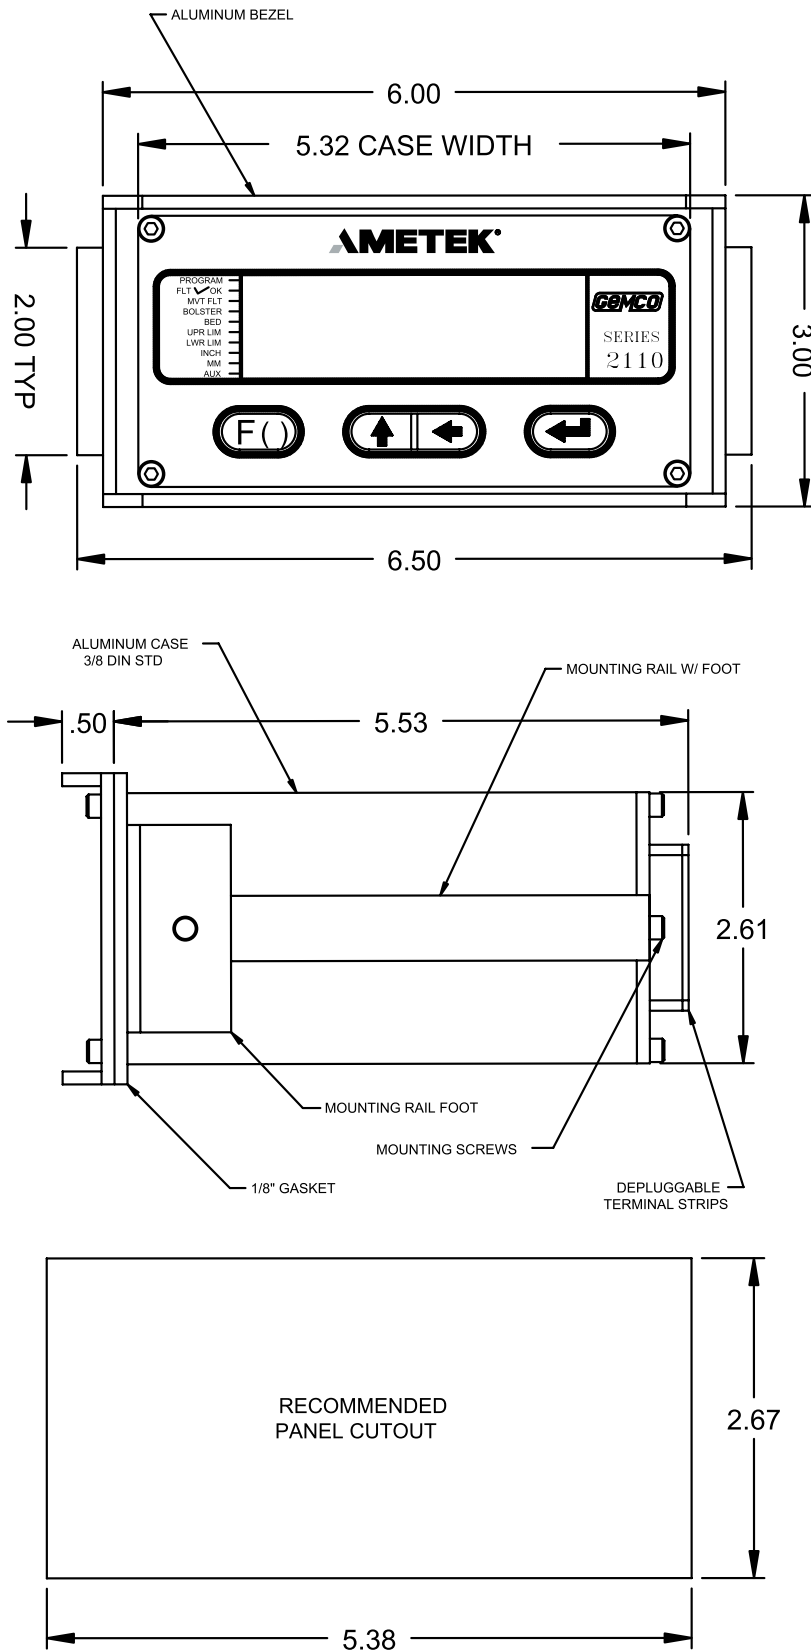

Figure 3-1 Dimensional Drawing
To assist you in mounting the shut height monitor, refer to Figure 3-1. Perform the following steps:
1. According to the dimensions as shown in Figure 3-1, cut out a section of the panel you wish to mount the monitor to.
4. From behind the panel, insert the two mounting rails into the monitor's side grooves. The feet of the rails must be inserted first. See Figure 3-1 for the location of the mounting rails.